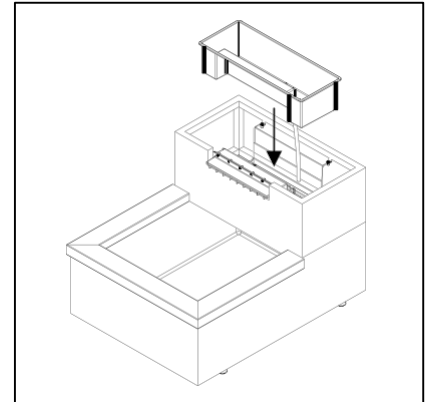

Fig. 11
11. Replace the basket on tray. Note: if the basket connect with the tube, it is important to insure that the planter drain tube is behind the liner of the reservoir to insure that dirt and debris from the planter do not enter the reservoir. Fig. 11